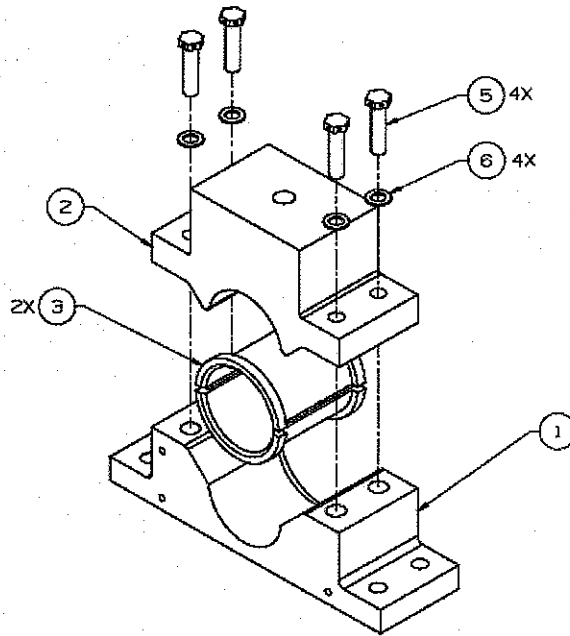

Figure 8
8. Remove the bolts, NAS1958C20H, item 5 in Figure 8. Repeat for all four Trunnion Block Assembly, SEG38117010-301 (GSE). Check the bolts for signs of damage. If the bolts show damage, mark the hardware and remove from service. Bag and tag the bolts and washers. Remove the top of Trunnion Block Assembly, item 2 below, and the top of the bearing, item 3. Store these parts with the bolts.